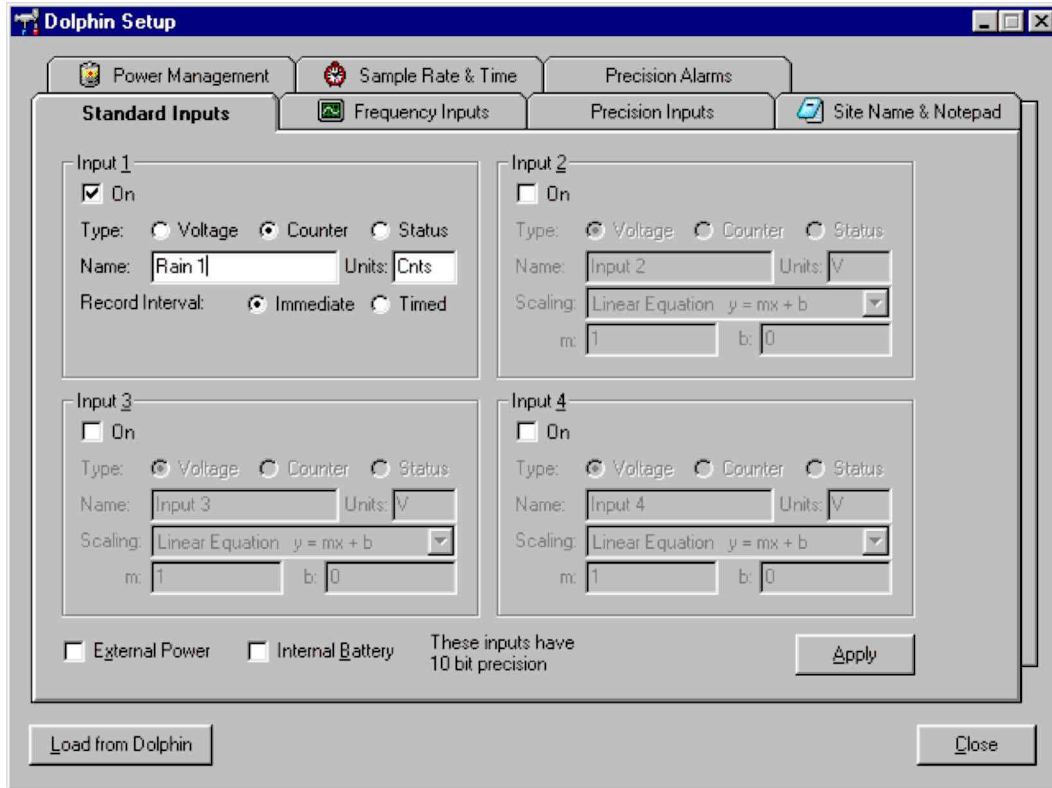

Figure 3: Configuring a standard input for rain gauge data.
3. Click on the Standard Inputs tab to bring this page to the front. Next, enable the input control that is connected to the rain gauge by clicking its "On" checkbox. Select the counter option button to configure the input for event counting, and enter a descriptive name for this input. Choose an immediate record interval to cause the Dolphin to immediately record the time of the event when the input is switched to ground (when a tip occurs). As an example, the standard input page of the Setup window is shown in Figure 3 below with input 1 enabled and correctly configured to capture a rain gauge tipping event.